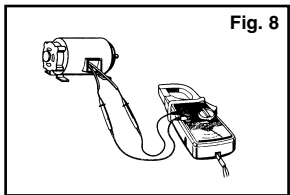

Fig. 8
- (5) Connect the test leads to the circuit under test (Fig.8) and read the resistance directly on the scale. Multiply the reading by either 1k or 10 k depending upon the range you selected.